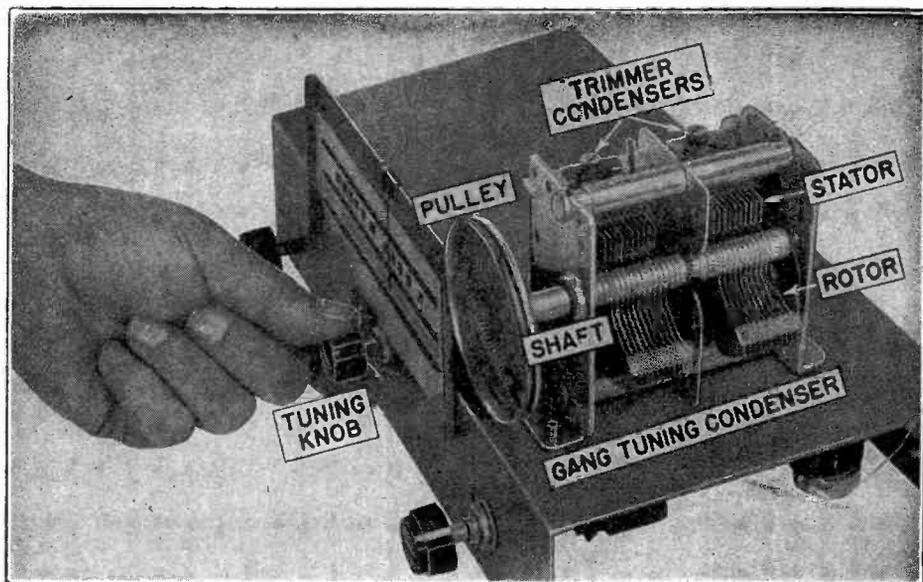

FIG. 12. View of the gang tuning condenser in our superheterodyne receiver, with important parts identified.
In Fig. 12 is a clear illustration of another highly important large part in our superheterodyne receiver, the *gang tuning condenser*. It has two sections, which work with the two r.f. coils located underneath the chassis. A tuning condenser is never used by itself; it is always used with a coil, and *tunes* the coil to a particular frequency. You will find this interesting situation many, many times in radio—different parts acting together to produce special results which the parts could not give separately.
**Rotor and Stator.** Each section of our gang tuning condenser in Fig. 12 has two important parts:
**Dial Cord.** The tuning control knob in our superheterodyne receiver is quite some distance from the gang tuning condenser shaft, as you have probably noticed already in Fig. 12.